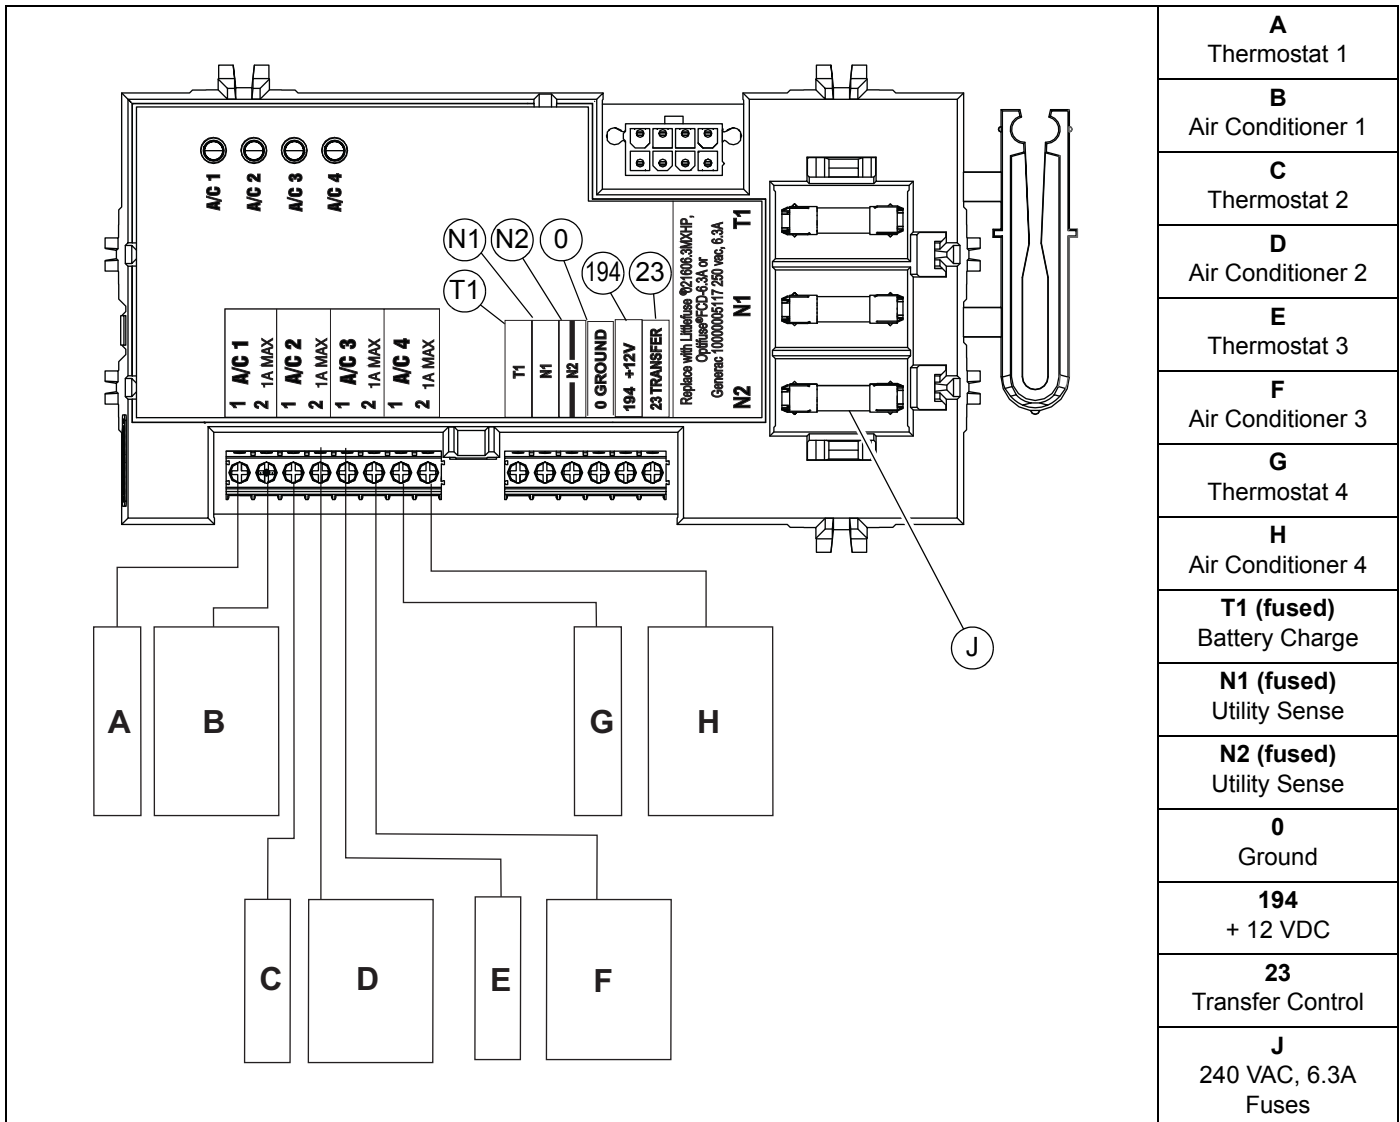

Figure 3-6. Typical SACM Connections
NOTE: To simplify installation, Generac Composite Tray Cable control wiring color codes match the label on the SACM control module shown in **Figure 3-6**.
See **Figure 3-6**. The SACM can control an air conditioner (24 VAC) directly.
2. Connect the wire to the terminal strip terminals (A/C 1) on the SACM as shown in **Figure 3-6**. These are normally closed contacts which open upon load shed